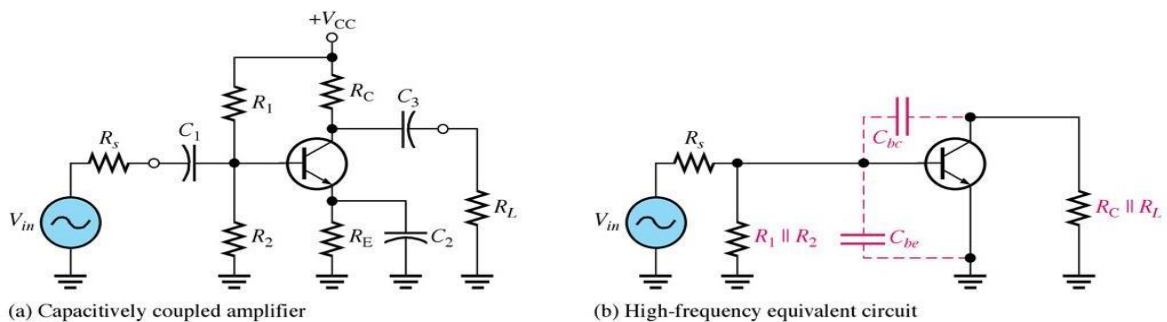

Figure 3.30 Capacitively coupled amplifier and its high-frequency equivalent circuit.
- Figure 3.30 shows a high-frequency ac equivalent circuit for the BJT amplifier.